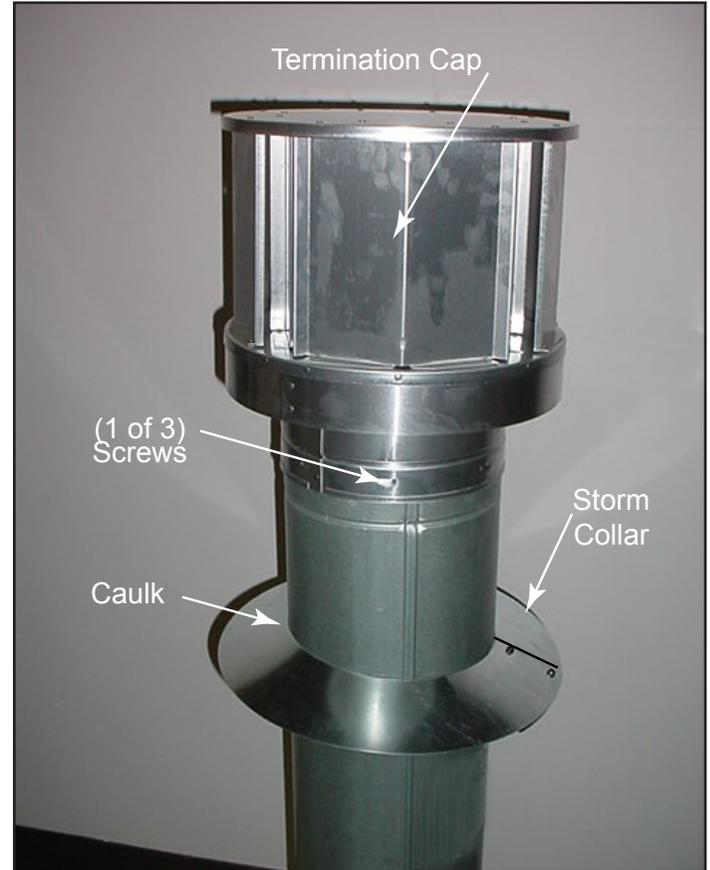

Figure 7.15
- Caulk the perimeter of the flashing where it contacts the roof surface, Figure 7.15.
- Caulk around the top of the storm collar, Figure 7.15.
- Secure the cap by driving three self-tapping screws (supplied) through the pilot holes in the outer collar of the cap into the outer flue of the pipe, Figure 7.15.